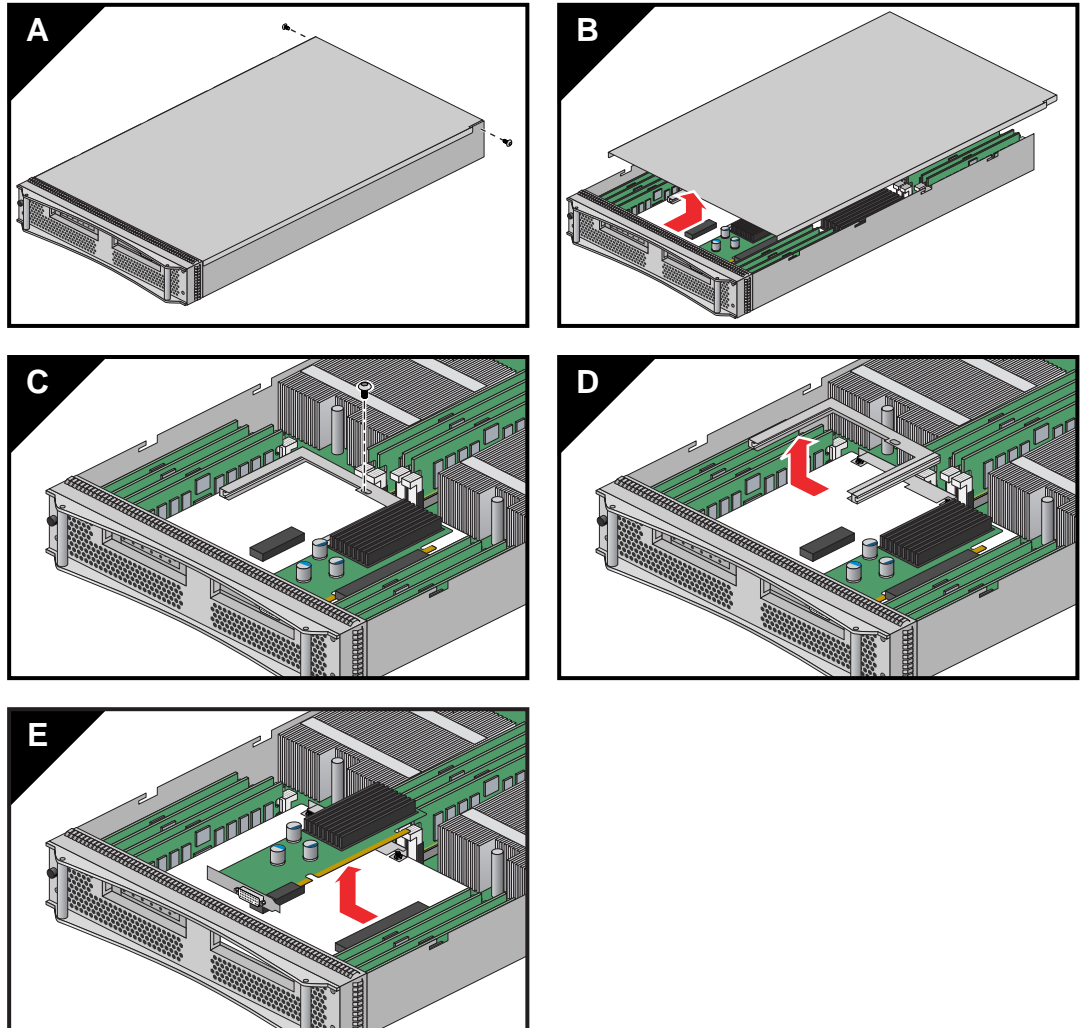

Figure 5-5 Remove PCIe Card from the Riser Blade
4. Unscrew and remove the two T10 torx-head screws located on either side of the rear part of the blade's sheetmetal housing, (see Figure 5-5 on page 65). Set the screws aside for the re-installation process.